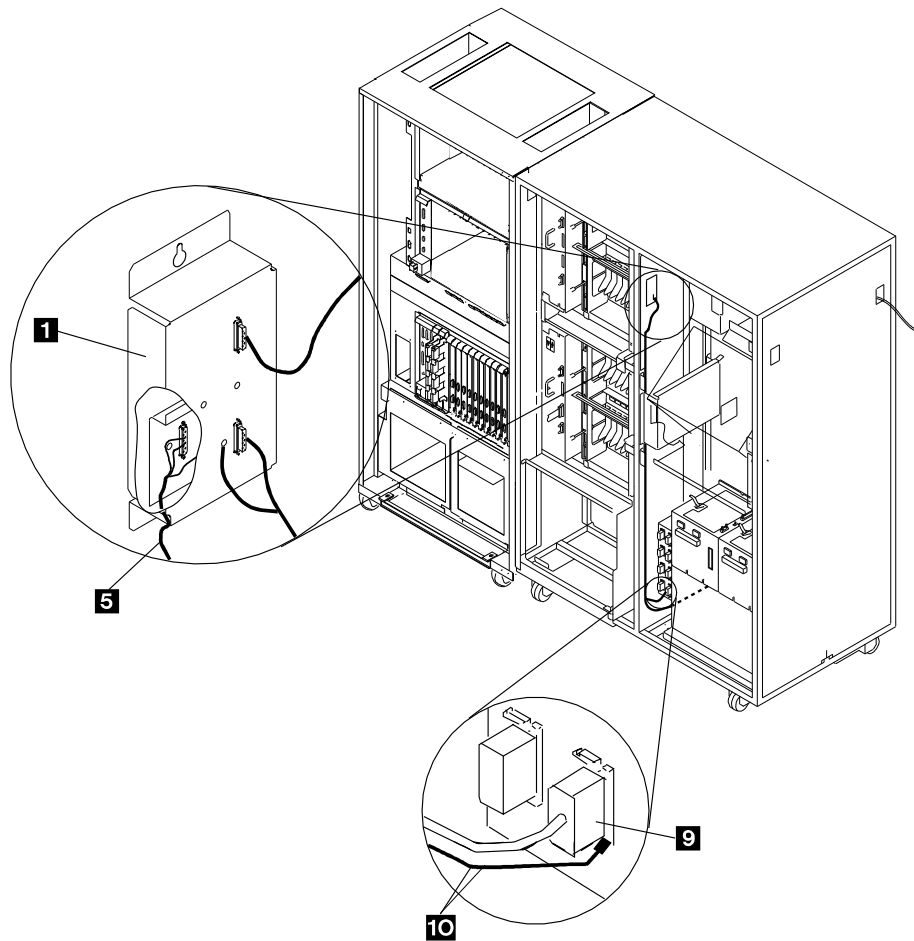
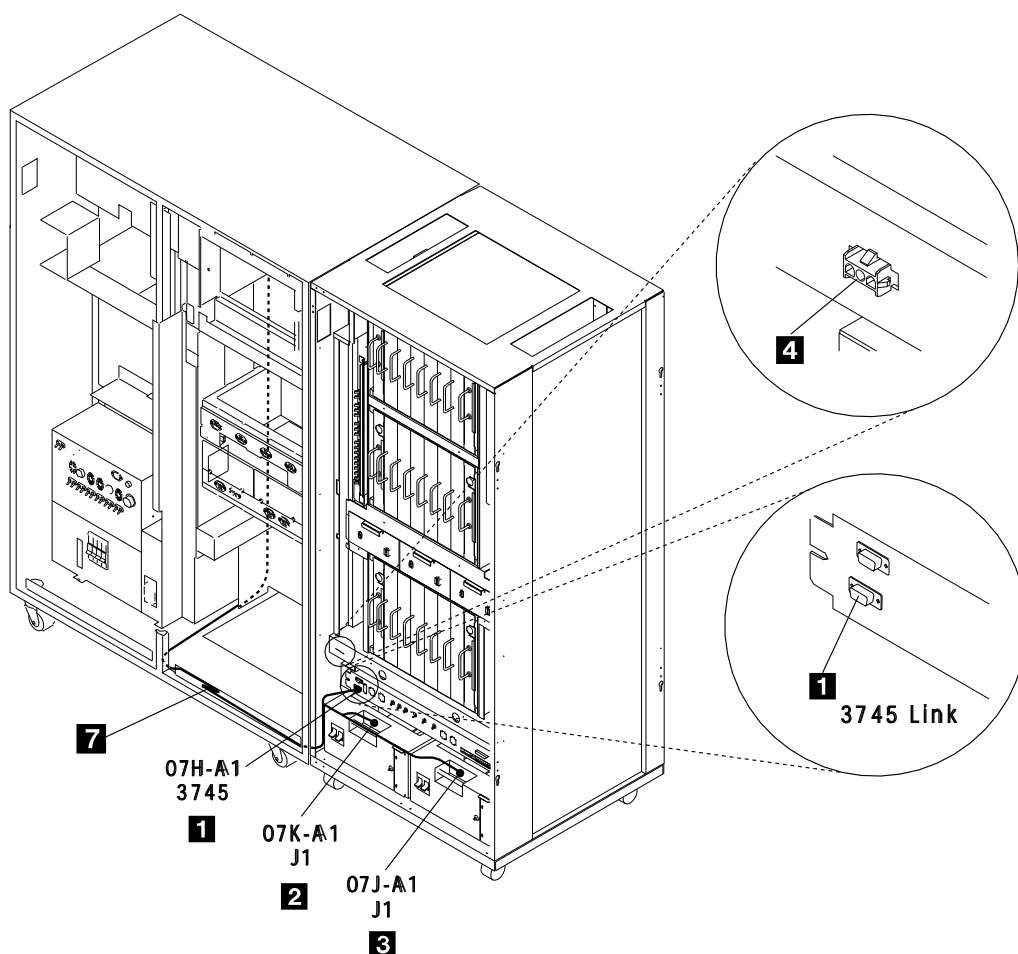

Figure 4-7. 3746-900 Power Control Cable Connection to the 3745-X1A Console Tailgate
Figure 4-8. Power Control Cable Connection to the 3746-900 Power Box
- Step c. ____ Slide the cable **5** PN 03F7538 through the slot at the bottom right side of the console tailgate **1**, down to the 3745 EPO tailgate (see Figure 4-7 on page 4-9).
Step h. ____ Plug the EPO connector **9** to the 3745 EPO tailgate in 01S-A0 into a free plug, any plug from **J1** to **J8** (see Figure 4-7).
2. Connect the Power Control Cable (PN 03F7538) in the 3746-900 as follow: (see Figure 4-8)
- Step a. ____ If present remove the raceway cover **7** at the front bottom of the 3745 (see Figure 4-8).
- Step b. ____ Go through the 3745 base frame, route the cable through the raceway at the front bottom of the 3745 base frame and up to the 3746-900 power box. (see Figure 4-8 and Figure 4-7 on page 4-9). Hold the excess length of cable in the 3745 raceway.